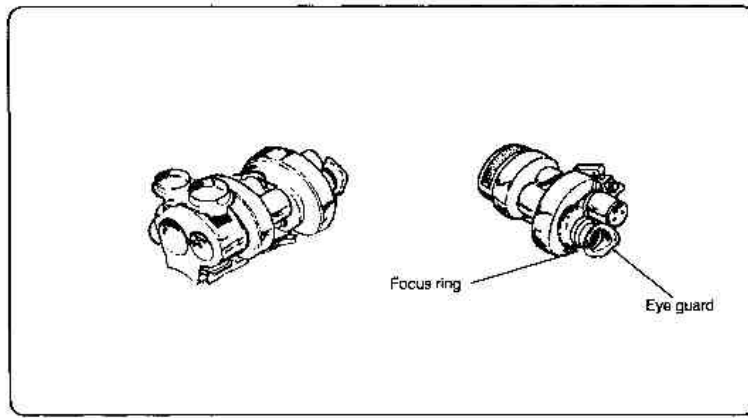

Figure 1-3. Day tracker optical sight and eye guard.
(3) A connector cover provides both mechanical and moisture protection for the electrical connector. It is attached to the tracker by a lanyard.
(4) Shock absorbers surround the forward and rear ends of the tracker to protect the tracker and optical lenses. The lens cover is also attached to the tracker by a lanyard.
(5) The optical sight of the day tracker is a 6-power telescope. It provides the gunner with a magnified image across a 6-degree field of view to help him to locate, identify, and track targets. A fitted and molded rubber eye guard provides the gunner with eye protection and allows rapid eye adjustment to the sight (Figure 1-3). The infrared receiver consists of an objective lens assembly, graded filter, infrared detector, and nutator mirror. The sensor detects the infrared output of the missile flare and discriminates against background signals. It detects any deviations or excursions of the missile from the gunner's LOS.